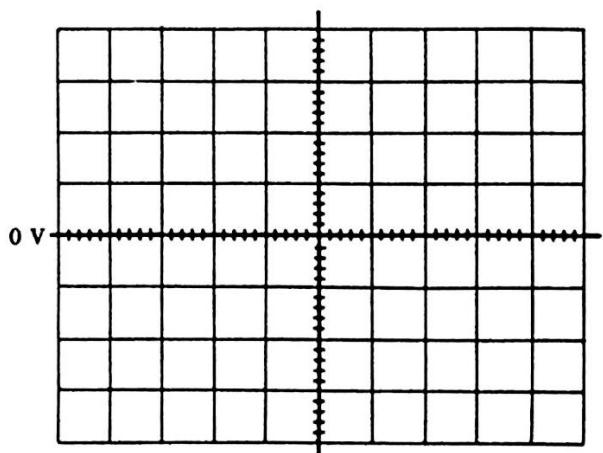

Figure 3.4a
10. Sketch  $v_I(t)$  and  $v_O(t)$  on Fig. 3.4a.